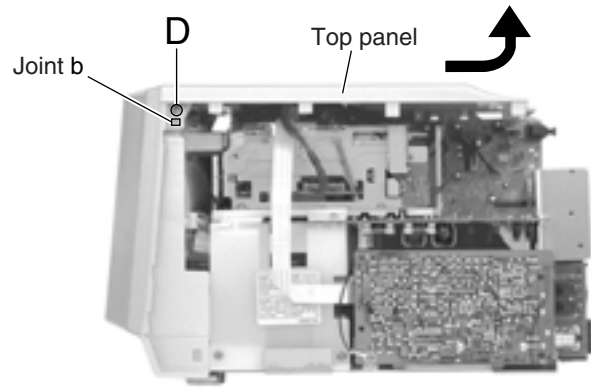

Fig.6
■ **Removing the top panel (See Fig.6 and 7)**